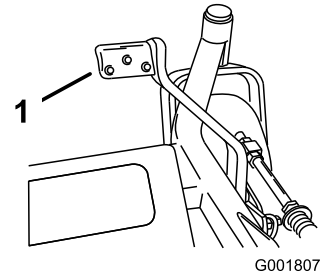

Figure 29
2. Press on the lift assist lever while pulling up on the height-of-cut lever (Figure 29).